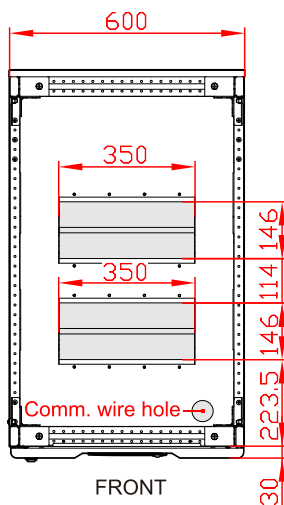
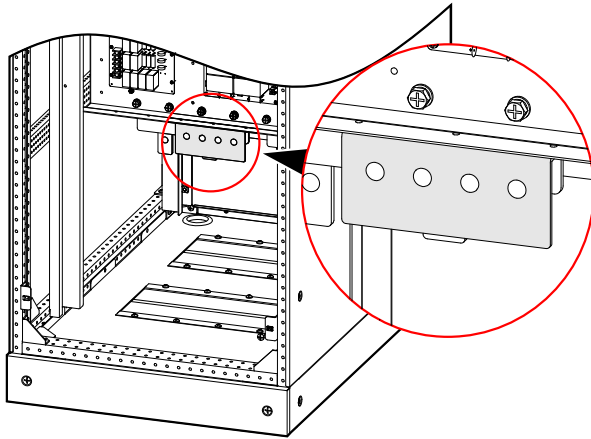
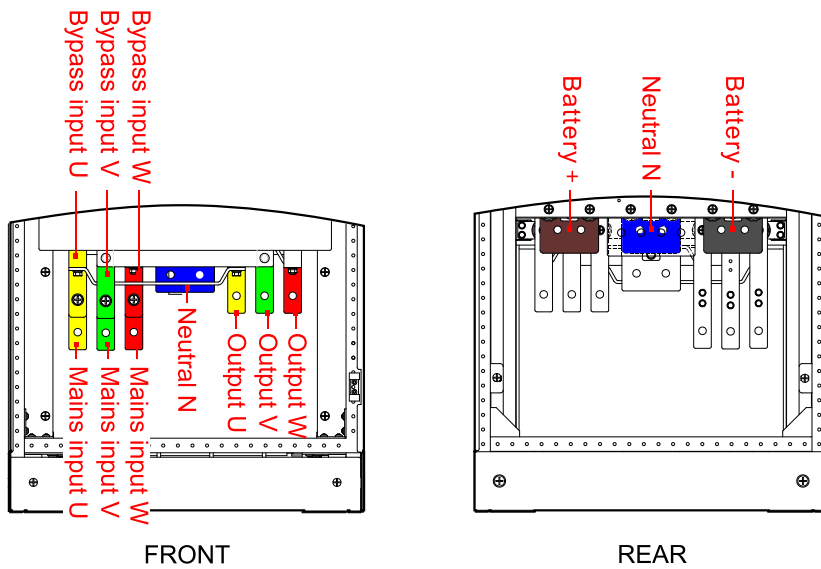

Figure3-34 Wire inlet and outlet hole of down wiring of IST7-160, IST7-200
Figure3-35 PE position of IST7-160, IST7-200
Figure3-36 Wiring terminals bars diagram of IST7-160, IST7-200
- Step 2 Lead the input cables, output cables, battery cables and PE go through the top wiring hole(the position of wire inlet and outlet holes as shown in Figure3-34), and connect the wiring terminal respectively(the wiring terminal as shown in Figure3-35, Figure3-36), then fasten the bolts.